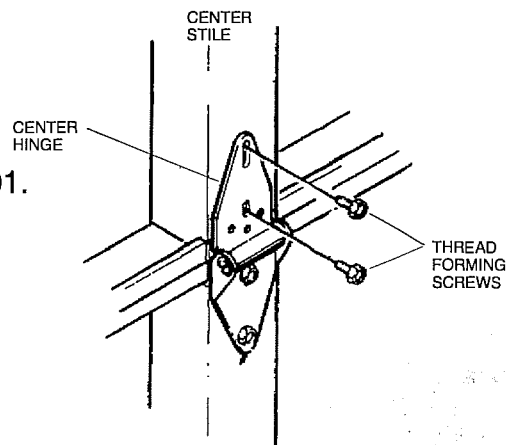

Figure 9
5. Attach upper half of center and end hinges to bottom of next highest section. See Figure 9.